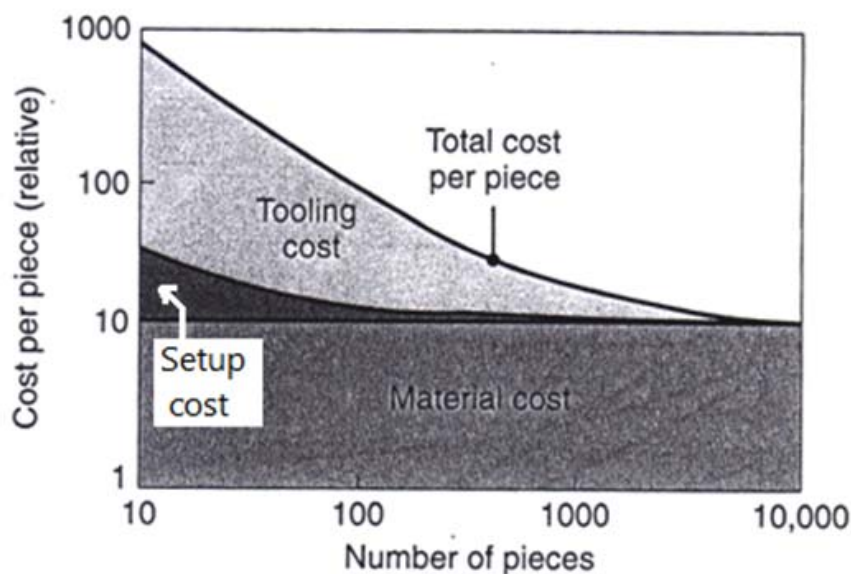

Figure Q5[a]
- Q5. [a] Several factors are involved in the cost of forging, depending on complexity of the forging part, tool and die costs. Figure Q5[a] shows the typical cost in forging including tooling, setup and material costs. Comment on the effects of number of parts on the cost per part for each of cost involved.